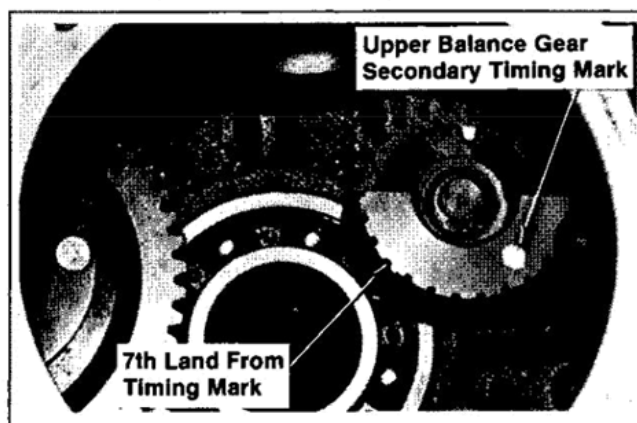

Figure 12-26. Marking Land On Upper Balance Gear.
**Upper Balance Gear** – Locate the secondary timing mark on balance gear. Starting with the land next to the timing mark, count **seven (7)** lands in a **clockwise** direction. Mark the seventh land. Refer to Figure 12-26.